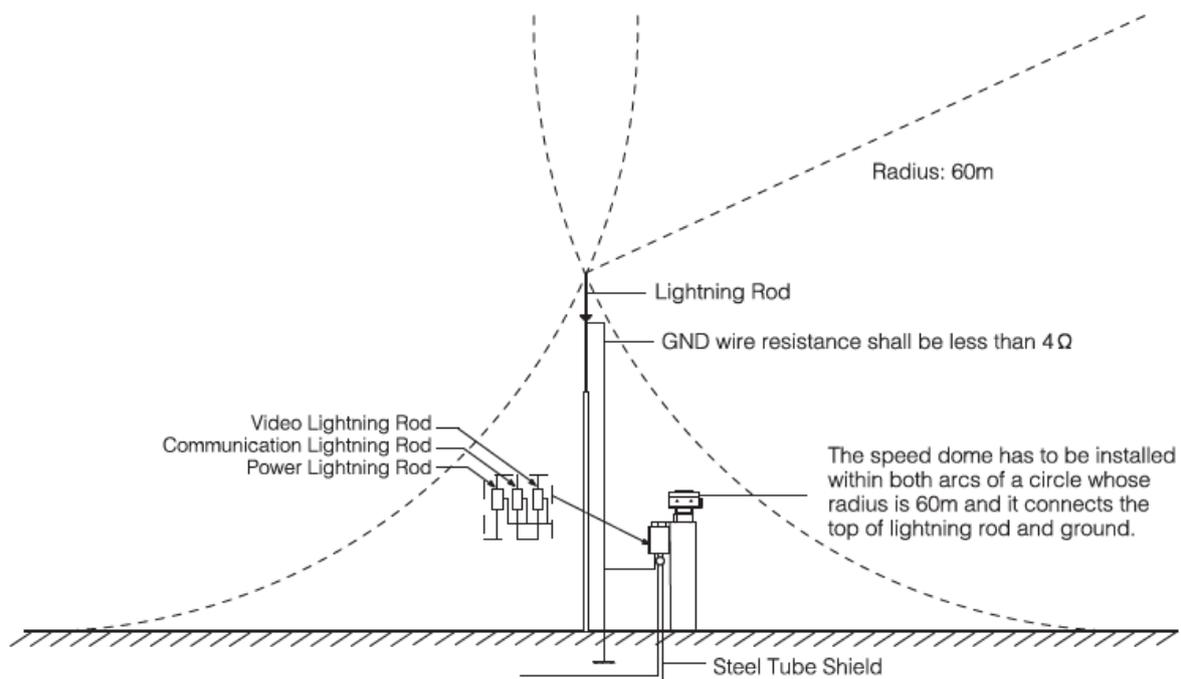

Figure 5-1
- System shall adopt equal-potential wiring. The earth device shall meet anti-jamming and at the same time conforms to your local electrical safety code. The earth device shall not short circuit to N (neutral) line of high voltage power grid or mixed with other wires. When connect the system to the earth alone, the earth resistance shall not be more than  $4\ \Omega$  and earth cable cross-sectional area shall below  $25\ \text{mm}^2$ . See Figure 5-1.